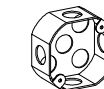

**Fig.2**
- Pay attention lamp plan adjustment (Fig. 2).
- Fix the canopy (D) to the bracket (A) with two screws (M) and two washers (N) (Fig. 2).